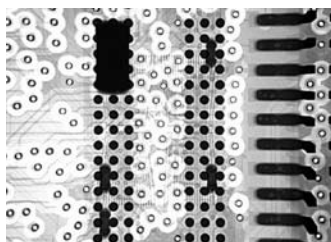

Figure 2. Proper Pad Alignment
- 2) Proper pad alignment – an overall 2D image will be captured which allows for inspection of the overall alignment of the BGA solder joints with the corresponding PCB pads. Often times with tin/lead (Sn/Pb) solders if the BGA is misplaced slightly off of the pads, the BGA will self align during reflow. This is not the case when using some Pb-free alloys, particularly SAC305. If the BGA is not properly placed and centered on the pads, it will reflow where it sits and will not self align on the pads. This is often caught during general inspection after production. See Figure 2.